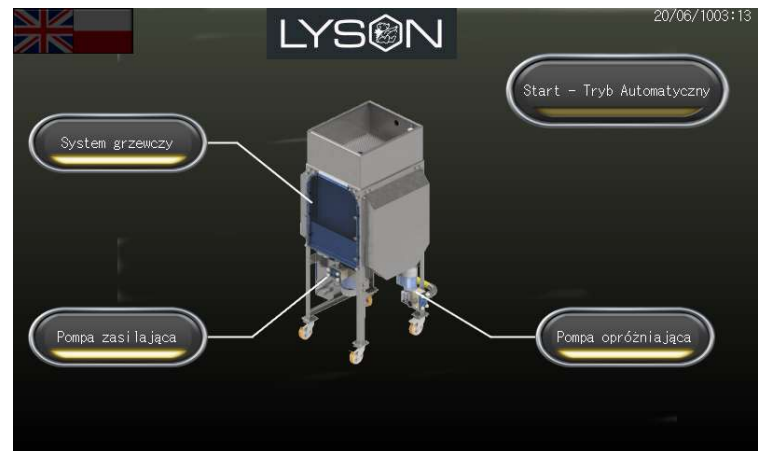

Fig.2
- Pressing the START-AUTOMATIC MODE button (Fig.2) will put the controller into automatic mode. The air heating system and the honey supply pump will be switched on with the default work parameters. The parameters can be changed in the dedicated control panels for each subsystem (Heating system, Supply pump, Emptying pump).